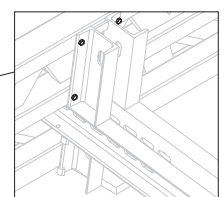

Fig. A2.04a
4. Position corner girder, use screw clamps to hold in position and fix to the stub by means of hex. wood screws M8 x 60. (Fig. A2.04a)